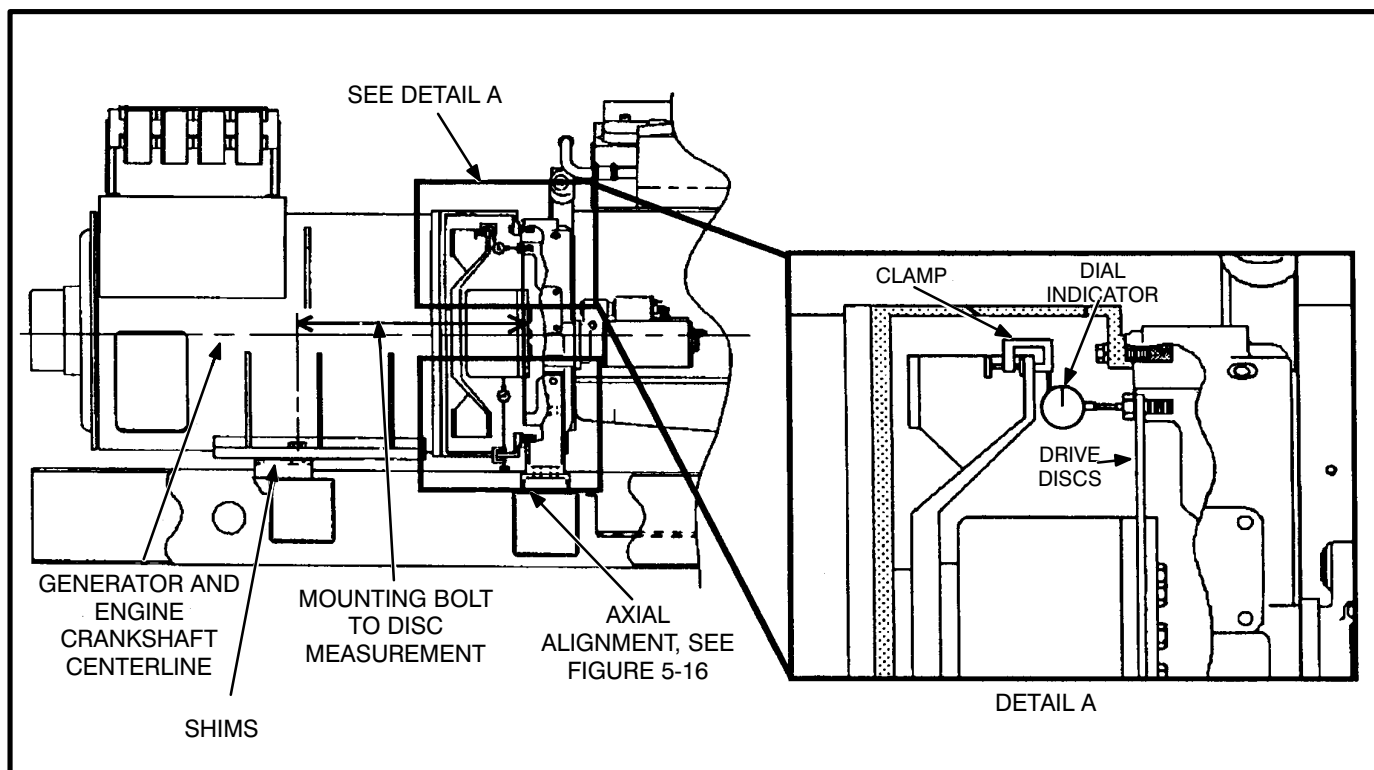

FIGURE 5-14. ANGULAR ALIGNMENT MEASUREMENT
Fasten a dial indicator to either the generator shaft or the cooling fan with the sensing point resting on the capscrew head or the flat surface of the drive disc at the bolt circle diameter, see Figure 5-14. Bar the engine over in a clockwise rotation as viewed from engine flywheel. Do not allow it to roll back on compression at the end of the travel of each reading. It is unnecessary to zero the indicator since the total indicator reading (T.I.R.) of the deflection measurement to the bolt heads is what is required. T.I.R. will be the sum of the maximum positive and negative dial indicator readings as the engine completes one revolution.
2. Measure the distance from the generator side of the drive discs to the center of the generator mounting bolt, refer to Figure 5-14. (For example; a HC6 Frame's distance is 28.4 inches.)